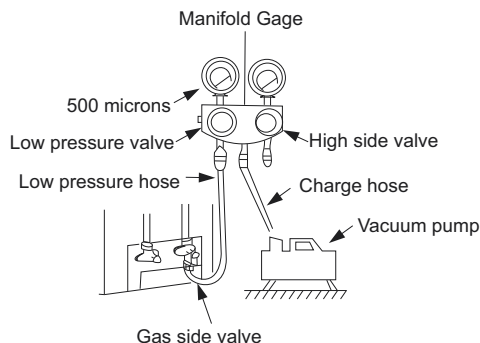

Fig. 9 — Manifold
3. Fully open the low pressure valve of manifold gage (see Fig. 9).
The triple evacuation method should be used. Refer to Fig. 9 and proceed as follows: